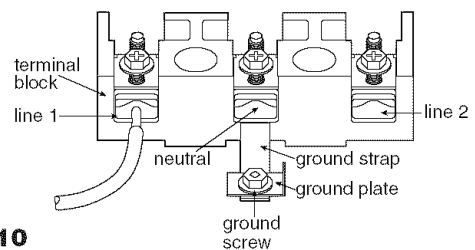

Figure 10
- 2 Strip insulation away from the ends of the permanent wiring for line 1, line 2 and neutral; also strip ground wire on 4-wire connections. Tighten all 3 or 4-wire leads to the terminal block. Follow wire locations shown in Figure 10.